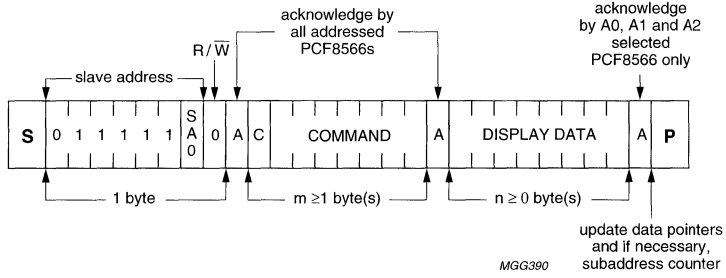

Fig.15 I2C-bus protocol.
The I2C-bus protocol is shown in Fig. 15. The sequence is initiated with a START condition (S) from the I2C-bus master which is followed by one of the two PCF8566 slave addresses available. All PCF8566s with the corresponding SA0 level acknowledge in parallel the slave address but all PCF8566s with the alternative SA0 level ignore the whole I2C-bus transfer. After acknowledgement, one or more command bytes (m) follow which define the status of the addressed PCF8566s. The last command byte is tagged with a cleared most-significant bit, the continuation bit C. The command bytes are also acknowledged by all addressed PCF8566s on the bus.